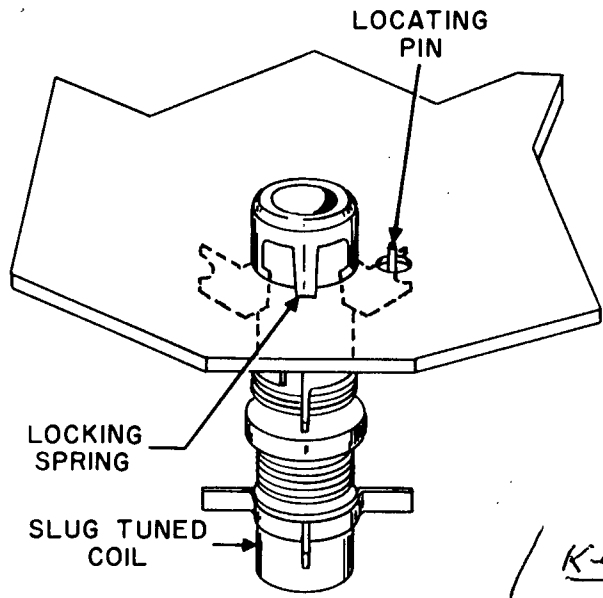

FIGURE 20. COIL MOUNTING
- Mount the following coils as shown in Figure 20.